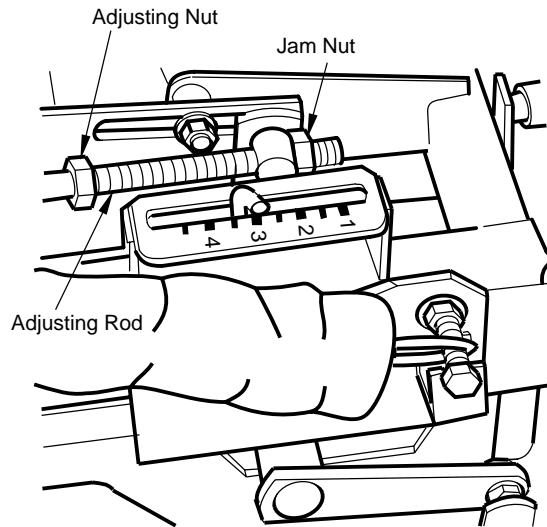

Figure 6-10 Adjusting Deck Pitch
1. To adjust the pitch, loosen the jam nut on both adjusting rods (See Figure 6-10).